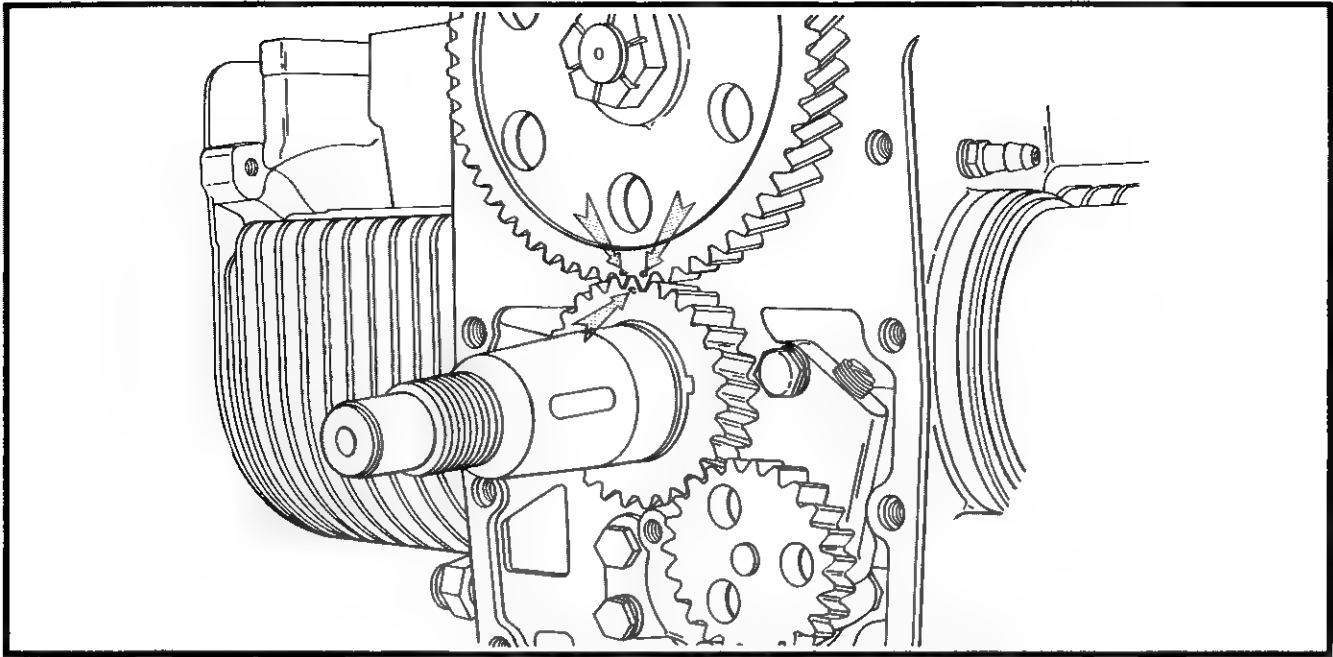

FIGURE 11-3 -- TIMING MARKS ON CRANK AND CAM GEARS (K482, K532)
- C. **Cam Gear:** Turn crank gear until tooth with punch mark is in 12 o'clock position as shown in Figure 11-3. Install woodruff key on camshaft, rotate camshaft so that the two timing marks punched on adjacent teeth of cam gear will straddle single mark on crank gear. After marks are aligned, install cam gear and secure with retaining nut--tighten nut to 480 in. lbs. torque value. When tightening nut, insert screw driver blade thru holes in cam gear and wedge against one of the capscrews to prevent gear from turning.